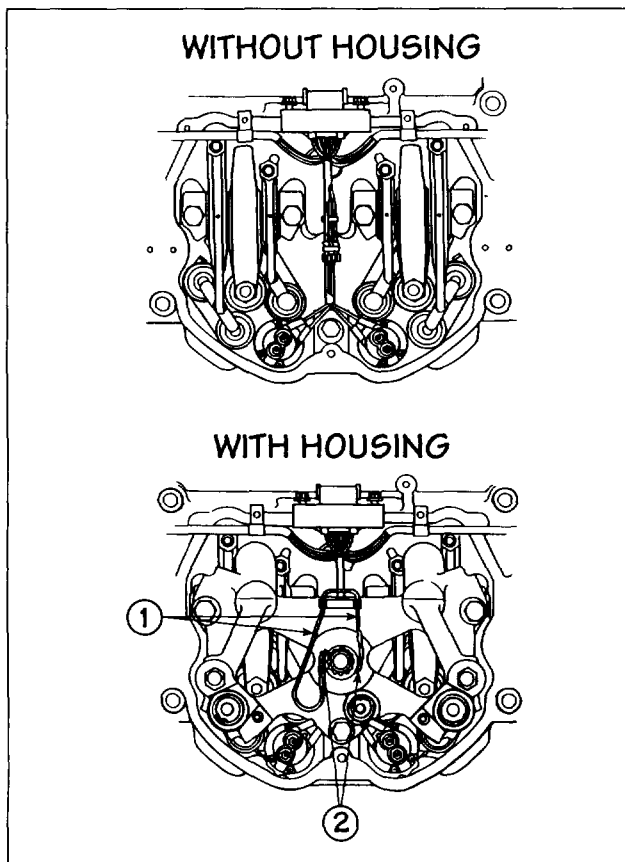

FIG. 16
Connect both solenoid lead wires (1) to the terminal lead outs (2) on the solenoids (see Fig. 16).